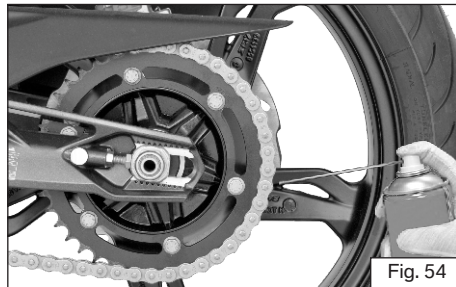

Fig. 54
- ◆ Slowly rotate the rear wheel in driving direction or wheel rotation direction. Apply recommended spray liberally as shown to the drive chain inner lower runs (ref. Fig. 54).